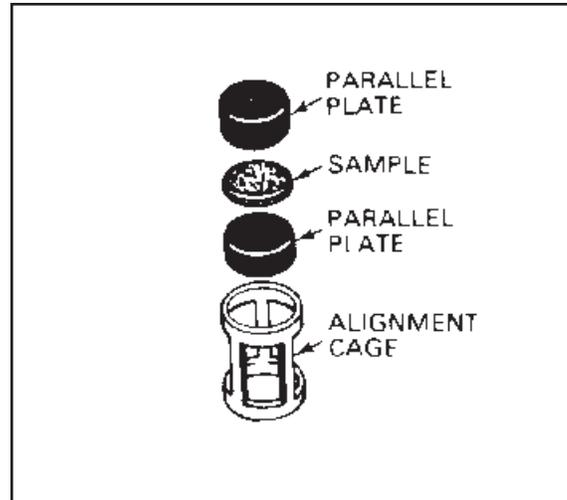

Figure 4.14
8. Place the sample between two parallel plates in the alignment cage, as shown in Figure 4.14.
11. Place the sample between two parallel plates in the alignment cage, as shown in Figure 4.14 on page 4-37.
3. Place the sample between two parallel plates in the alignment cage, as shown in Figure 4.14 on page 4-37.